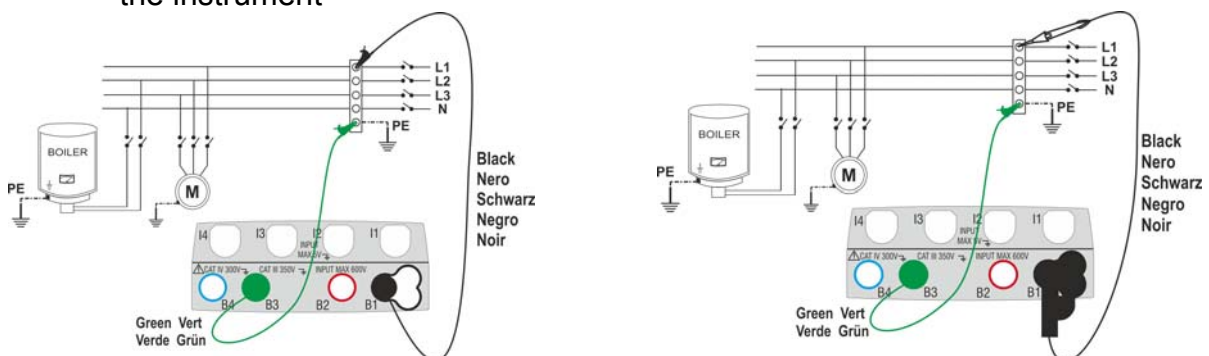

Fig. 8: Insulation test by means of single cables and remote lead
6. Connect the alligator clips and/or test leads and/or remote lead to the ends of the conductors to be tested as in Fig. 8 and Fig. 9.